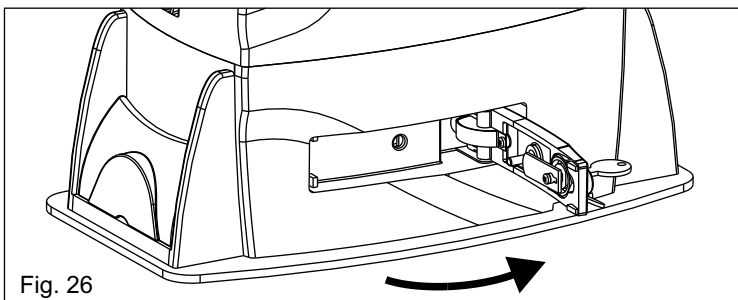

Fig. 26
- Pull the release lever until it stops, about 90° approximately (Fig. 26).